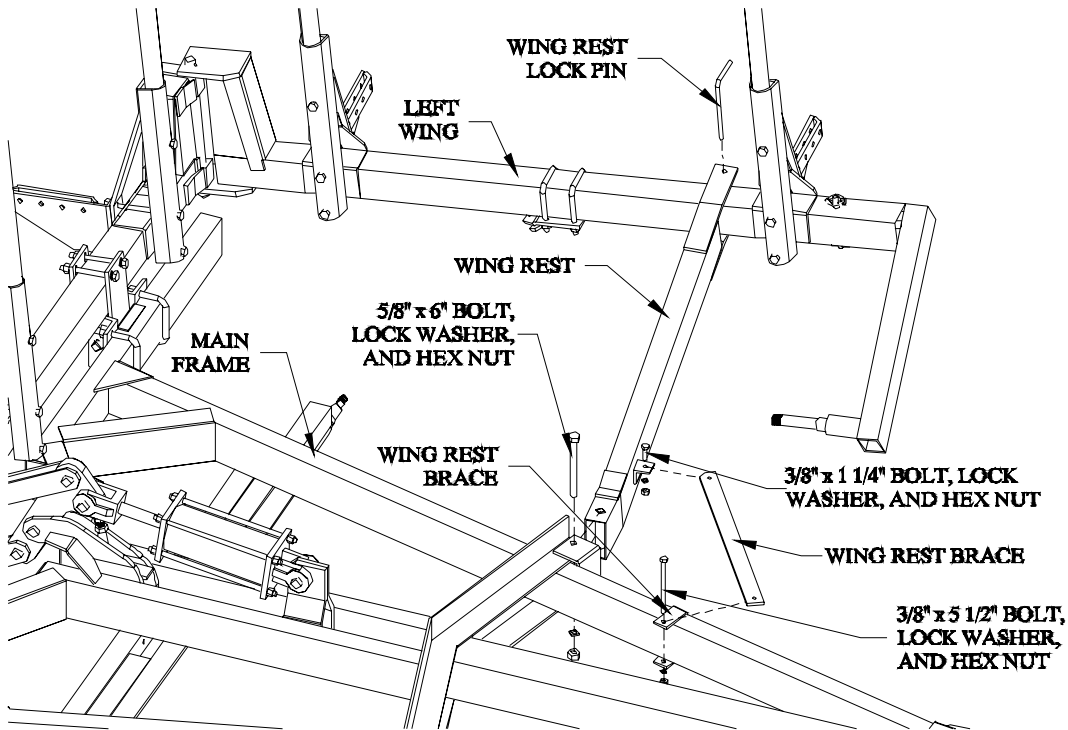

Figure 19
Refer to Figure 19 on the next page. The left and right wing rests can be differentiated by noticing the small angle welded to the side of the arm. The angle should be on the front side of the arm when the arm is in position on the main frame.
2. With the center bar and wings in the upright position, swing the wings forward. **Be sure the unit is attached to a tractor of adequate size before actuating the hydraulics!** Place the wings in the wing rests as shown in Figure 19. If the wing tube height does not line up with the wing rest, the stop bolt must be adjusted (this will be done later in the final adjustment).